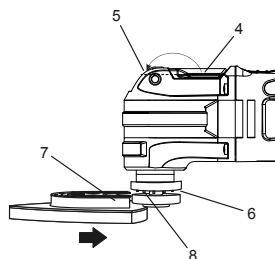

Figure 1
1. Lift the tool less accessory holder release lever (4) up and toward the front of the tool as far as it will go (5). (Figure 1)
1. Install the sanding pad on the Oscillating Tool. (Figures 1 and 2)